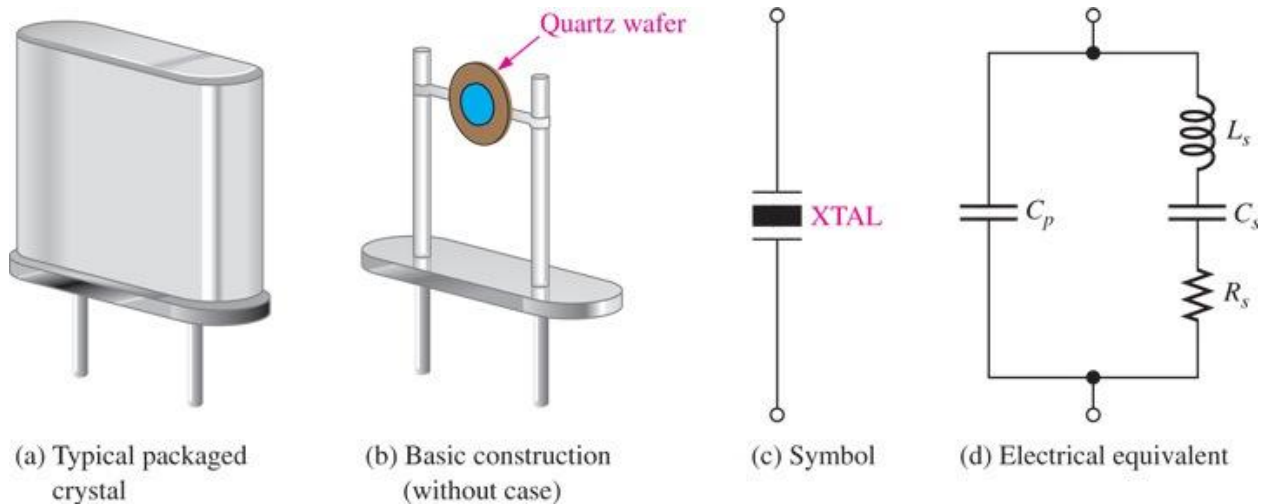

Figure 22 A quartz crystal.
- Crystals used in electronic applications typically consist of a quartz wafer as shown in Figure 22(a) and (b).
- A schematic symbol for a crystal is shown in Figure 22(c), and an equivalent RLC circuit for the crystal appears in Figure 22(d).